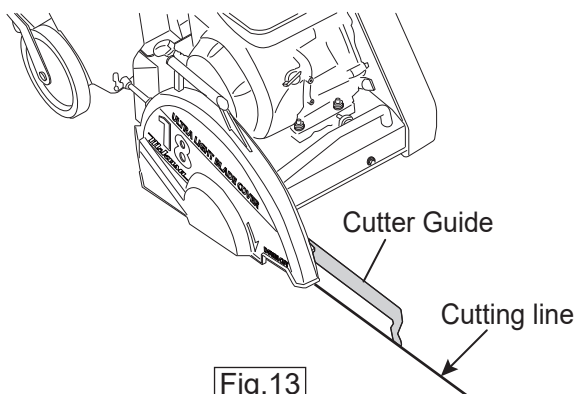

Fig.13
4. Set the cutter guide, aligning it with the blade. (Fig. 13)